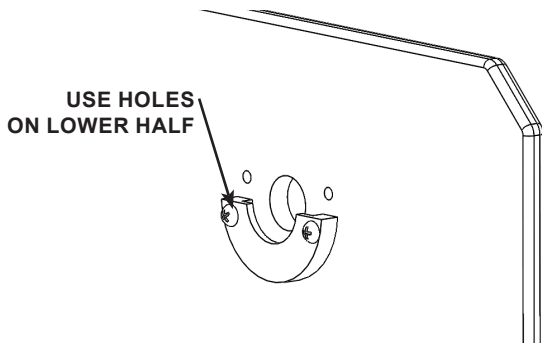

**FIGURE 3.20 - Holder Removal**
**STEP 4:** Using a Phillips head screwdriver and a wrench, remove the humidifier holder. See FIGURE 3.20